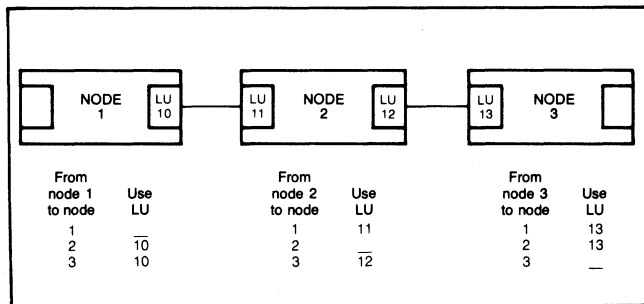

Figure 1. Nodal addressing in DS/1000-IV network
Node numbers for DS/1000 network connections are specified after an RTE operating system has been generated and loaded. A Nodal Routing Vector (NRV), which specifies the Logical Unit (LU) number through which a DS/1000 transaction goes from the local node to the target node, can be specified interactively or read from a file at each DS/1000 node. In each node, this file specifies the logical unit connections required to get to any accessible node, as shown in Figure 1.
Using the example of Figure 1, a transaction goes from node 1 to node 2 or 3 via LU10. At node 2, the DS/1000 communications management modules examine the destination node address in the message and either route the message to the local network interface monitors for processing if addressed to node 2, or forward the message to node 3 via LU12. In this way a single communications path is established between any two DS/1000 nodes, regardless of whether there is a direct, neighbor connection between them. Store-and-forward communications are not limited to a specified number of levels. However, store and forward to or through an HP 3000 system is not supported